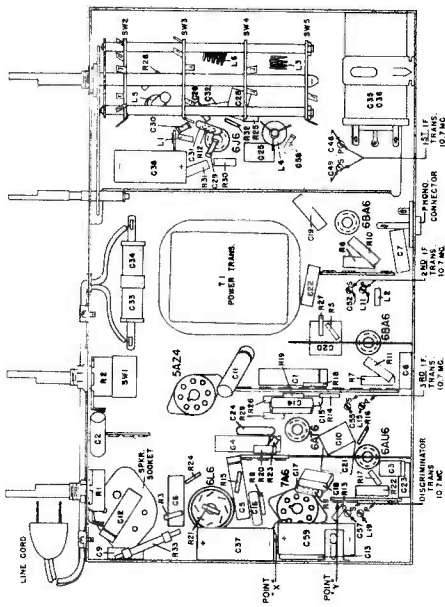

FIG. 3--BOTTOM VIEW OF CHASSIS
2.	Connect a vacuum tube voltmeter between point X (see Figs. 3 and 4) and ground (chassis).
6.	Connect the vacuum tube voltmeter between point Y (Figs. 3 and 4) and chassis.